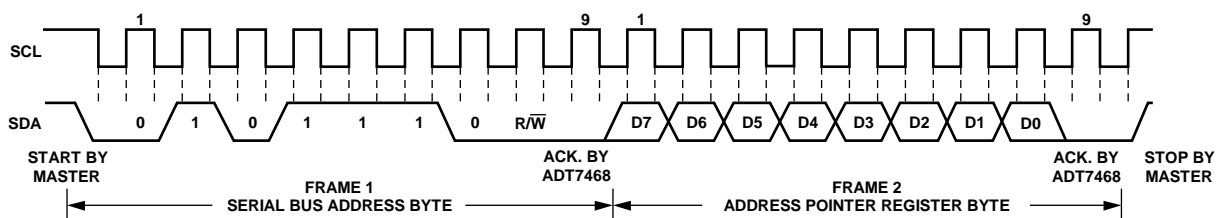

Figure 17. Writing to the Address Pointer Register Only
- If the ADT7468's address pointer register value is unknown or not the desired value, it must be set to the correct value before data can be read from the desired data register. This is done by performing a write to the ADT7468, but only the data byte containing the register address is sent, since no data is written to the register. This is shown in Figure 17.